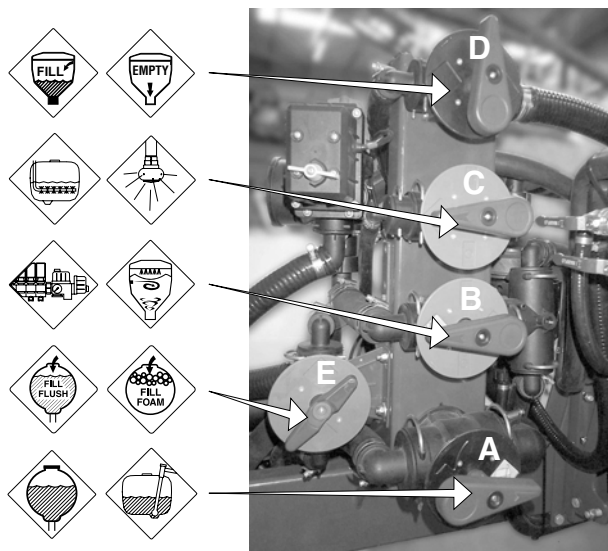

Fig 38
- 1 Empty the sprayer as much as possible. Turn the black suction valve (A Fig 38) towards FLUSH TANK.
- 4 When flushing water corresponding to approximately 10 times the spray liquid residue (see *Technical residue*) has been used, turn the black suction valve (A Fig 38) to MAIN TANK. Operate all EC operating unit valves, so all hoses and components are flushed.
- 1 Turn the black suction valve (A Fig 38) to FLUSH TANK.